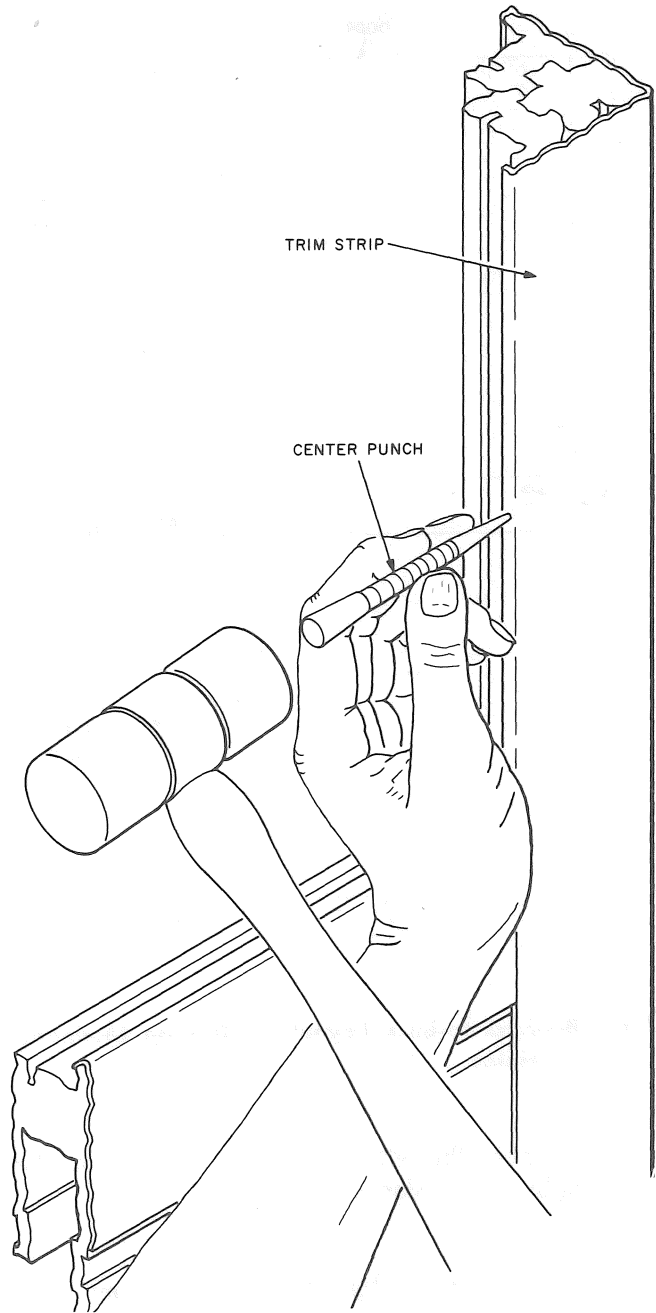

Fig. 17—Method of Crimping Trim Strips
(7) Crimp the top edge of the T6 trim strip approximately every 6 inches using RS-14770 soft face hammer and a center punch (Fig. 17).
- (8) Crimp the top edge of the T5 trim strip approximately every 6 inches using RS-14770 soft face hammer and a center punch (Fig. 17).
- (9) Repeat 3.22 (8).
- (10) Repeat 3.11, 3.12, 3.35, and 3.37.
(11) Repeat 3.31 (10) and (11).